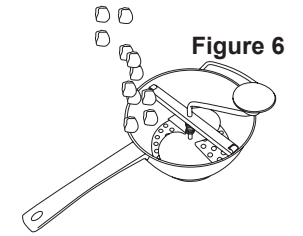

Figure 6
8. Place the **Food Mill** over a bowl or sauce pan and add the food to be milled into the **Food Mill** (Figure 6).